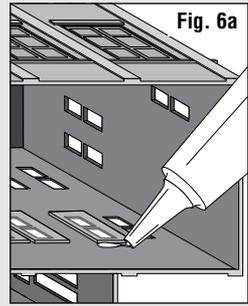

Fig. 6a
- Place Building on its front face with the bottom toward you (**Fig. 6a**).
- Carefully dab a small amount of glue around edges of Window Treatment (**Fig. 6a**).